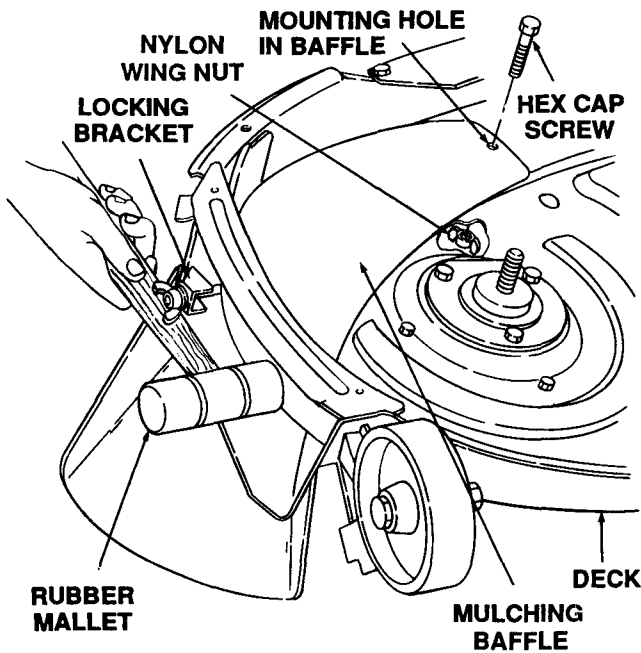

Figure 7-6. Seating the Baffle Assembly.
3. Using a rubber mallet to tap the side baffle through the discharge opening (see Fig. 7-6), alternately tap the rear area of the baffle and re-tighten the wing nut (or hex nut, if used). Repeat until the baffle is completely seated, and the inner mounting hole of the baffle aligns with the hole in the deck.
4. Insert the hex cap screw (see Fig. 7-6) from the underside of the deck and secure with the second wing nut.